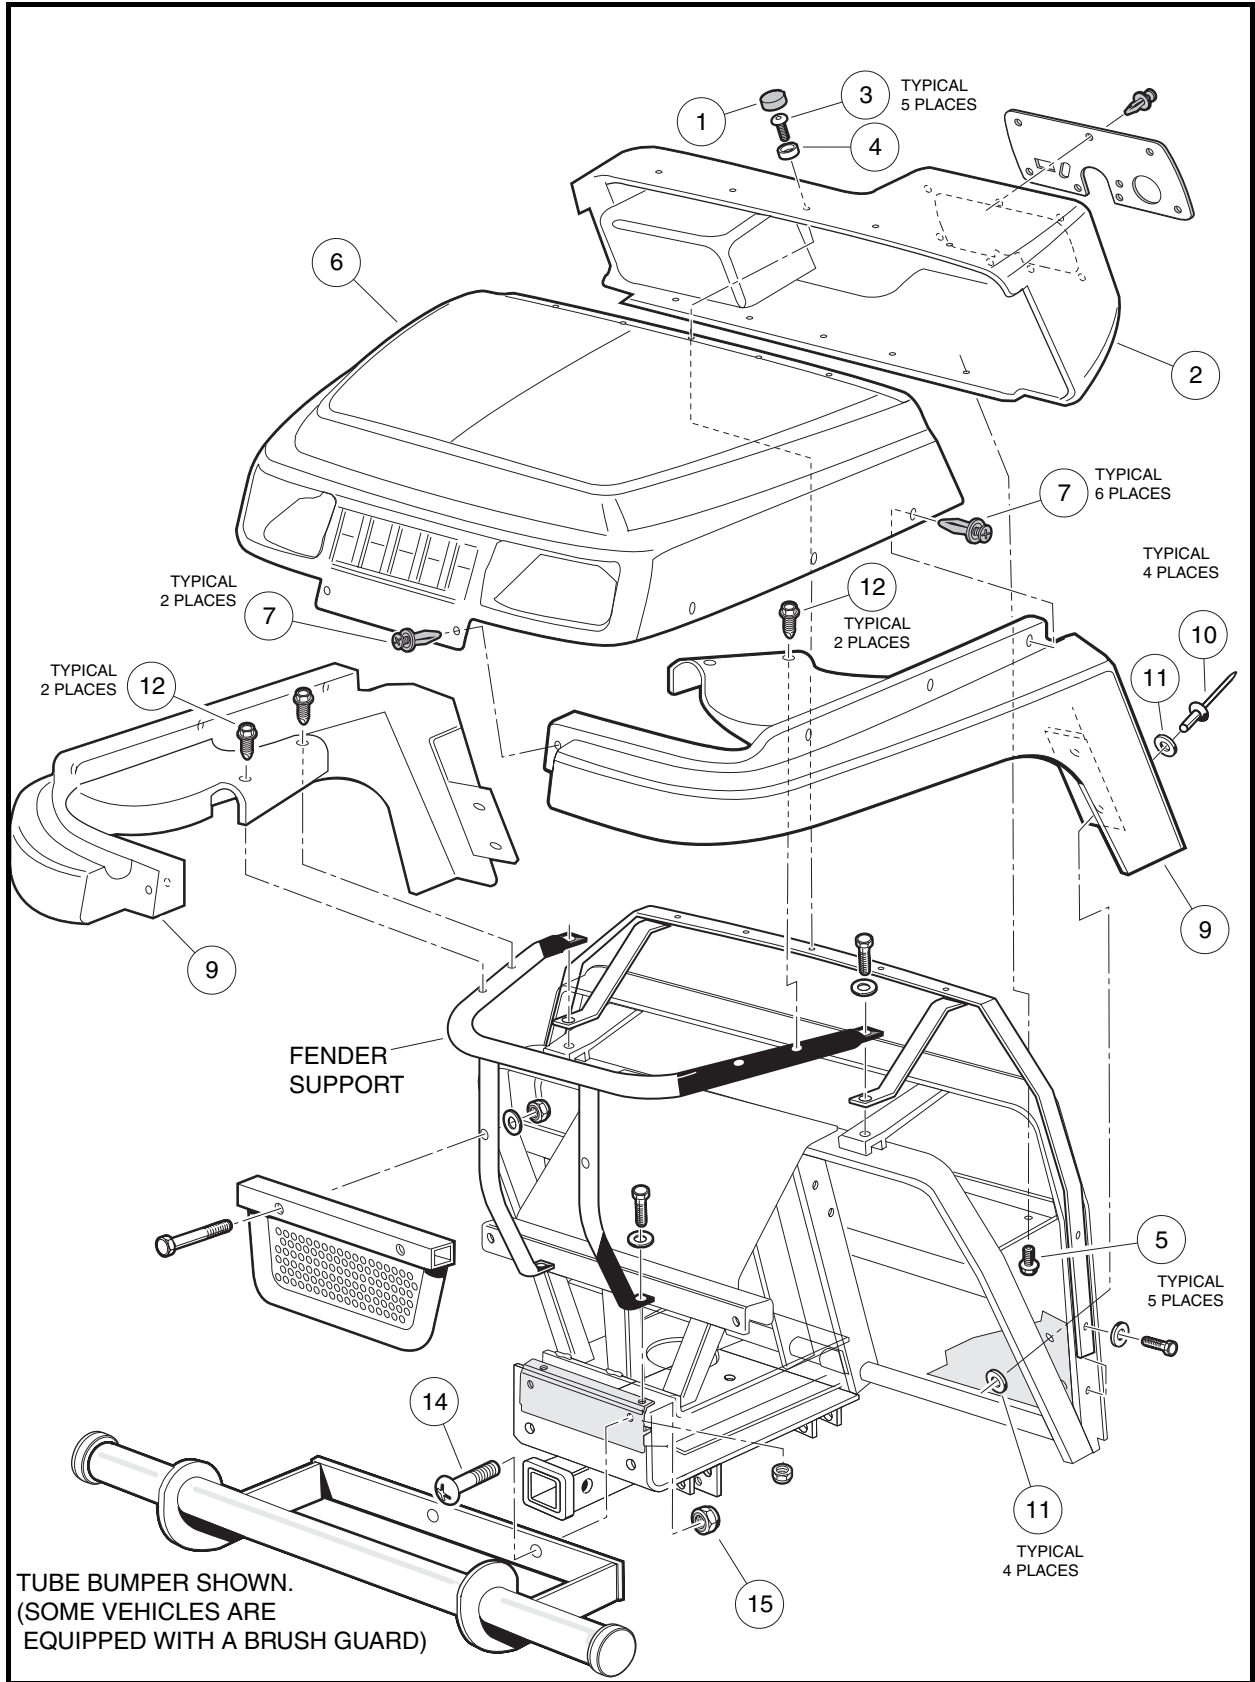

Figure 4-2 Front Body Assembly
1. Remove the truss-head screws (14) and nuts (15) that secure the tube bumper or brush guard to the vehicle frame (**Figure 4-2, Page 4-5**).
1. Installation is the reverse of removal. Tighten the nuts (15) to 15 ft-lb (20.3 N·m) (**Figure 4-2, Page 4-5**).
5. Remove five caps (1) from top of dashboard (2) (**Figure 4-2, Page 4-5**).
6. Remove screws (3) and special plastic washers (4) from top of dashboard (2) using a Torx #T-30 driver.
7. Remove five screws (5) from underside of dashboard and pull dashboard away from front body (6).
2. Tighten screws (5) to 11 in-lb (1.2 N·m) (**Figure 4-2, Page 4-5**).
3. Tighten Torx-head screws (3) with plastic washers (4) to 45 in-lb (5.1 N·m).
4. Install five caps (1).
1. Remove five caps (1) from top of dashboard (2) (**Figure 4-2, Page 4-5**).
2. Use a Torx #T-30 driver to remove the Torx-head screws (3) and washers (4) from top of front body (6).
3. Use a 5/16 nut driver to remove five screws (5) from underside of dashboard (2) and gently slide dashboard away from front body (6).
4. Use a phillips head screwdriver to remove the six Tuflok fasteners (7) from sides and two (7) from front of front body (6).
6. Lift the back edge of the body up and pull forward to remove from vehicle (**Figure 4-2, Page 4-5**).
1. Remove front body (6) (**Figure 4-2, Page 4-5**). **See Front Body Removal on page 4-4.**
2. Pull back floor mat to access rivets securing front fender (9) to frame. Drill out two 3/16 x 5/8 pop rivets (10) and remove two washers (11).
3. Use a 3/8 hex-head socket to remove two screws (12) from fender frame support and remove fender.
1. Reverse the fender removal process (**Figure 4-2, Page 4-5**).
2. Tighten screws (12) to 50 in-lb (5.7 N·m).
3. Pop rivet fender to frame using two 3/16 x 5/8 pop rivets (10) and two 3/16 rivet washers (11).
1. Reverse the front body (6) removal process (**Figure 4-2, Page 4-5**).
2. Secure front body (6) to dashboard (2) with screws (3) and plastic washers (4) and tighten to 45 in-lb (5.1 N·m).
3. Install five caps (1).
4. Secure front body (6) to fenders (9) with fasteners (7) and push the heads in until they snap into place.